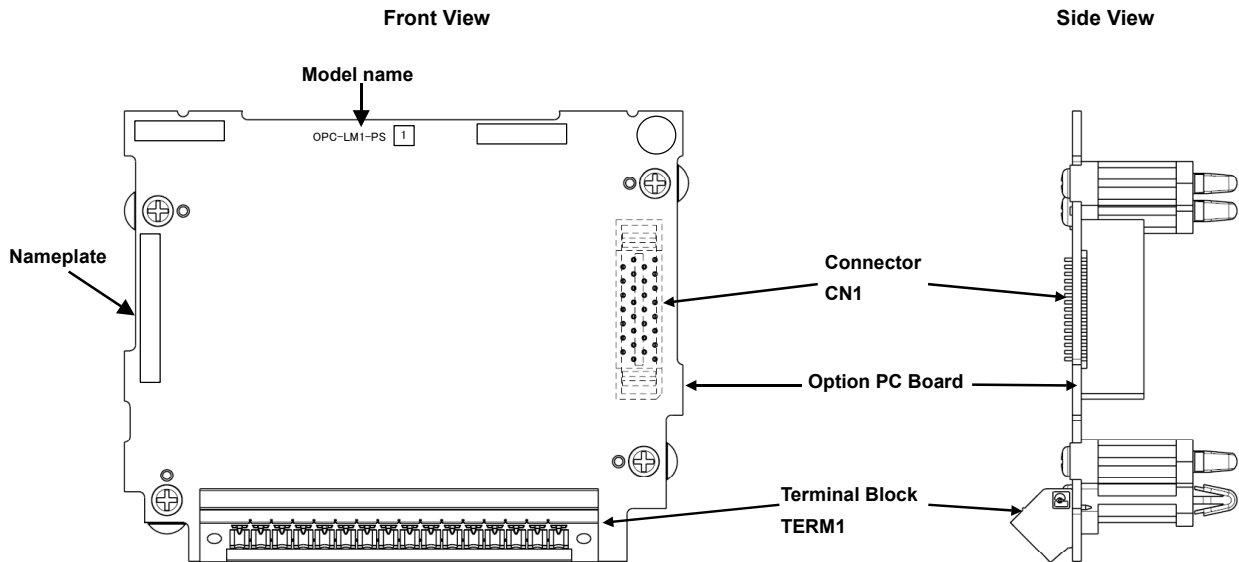

Figure 1.1 Product Appearance
- (1) The option card is contained in the package.
- (2) The option card is not damaged during transportation--no defective electronic devices, dents or warps.
- (3) The model name "OPC-LM1-PS1" is printed on the option card. (See Figure 1.1.)